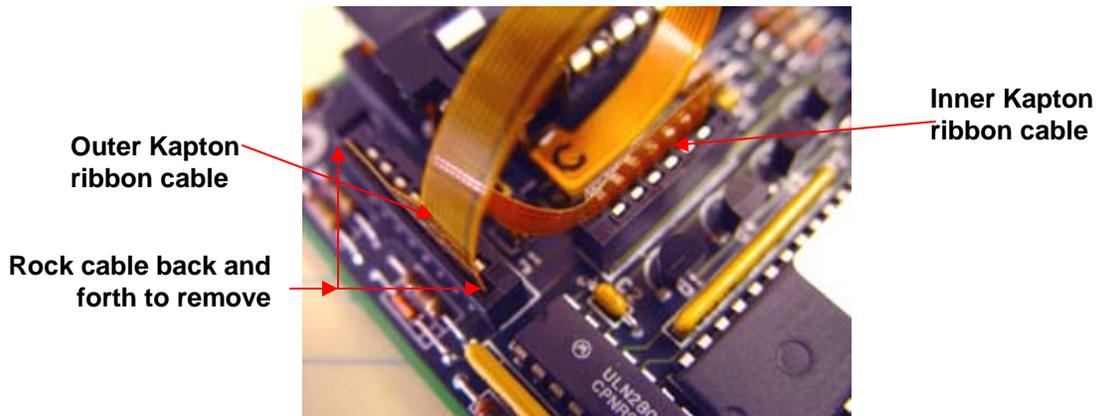

Fig. 3
6. Remove the printer PCB from the Endec. While holding the PCB down with one hand, remove the outer Kapton ribbon cable from its socket by firmly grasping the cable where it enters the socket and pulling upwards while rocking the cable from side to side. (see Fig. 3 & 4)